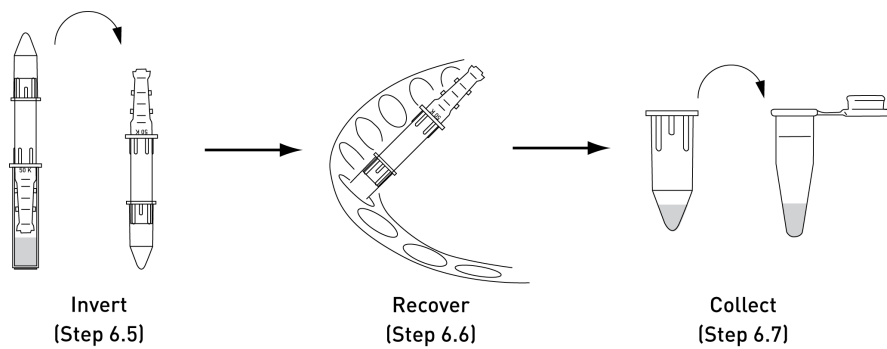

Figure 7 Collection of purified and concentrated antibody-biotin conjugate
- 6.5 Invert the antibody concentrator into the conical collection tube as shown in Figure 7.